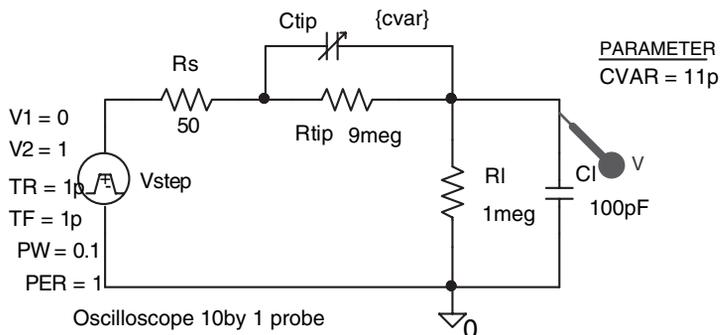

FIGURE 4.28: Oscilloscope probe
- (2) An oscilloscope probe reduces the effect of the input oscilloscope capacitance on a signal. Without such a probe, a step or pulse signal has the rise time degraded. The 10:1 oscilloscope probe in Fig. 4.28 is calibrated by attaching the probe end onto the